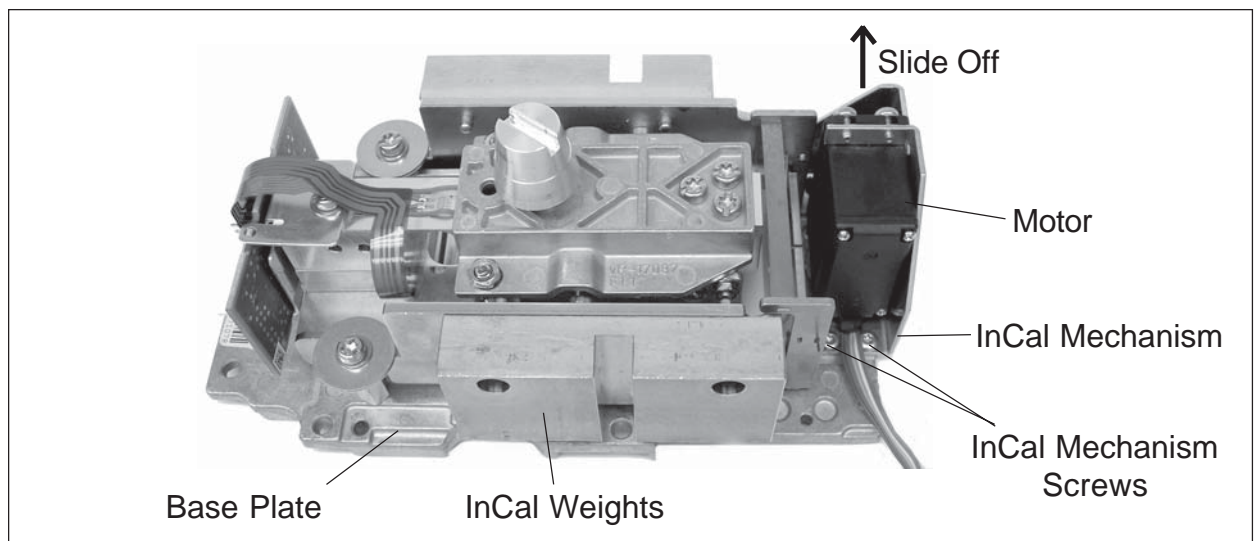

Figure 3-13. InCal Mechanism Identification.
3. Remove the screws from the InCal Mechanism as shown in Figure 3-13.
4. Slide the InCal mechanism off as shown in figure 3-13.
5. Refer to Figure 3-13 and slide the InCal Mechanism into position on the Load Cell and install the InCal Mechanism screws.